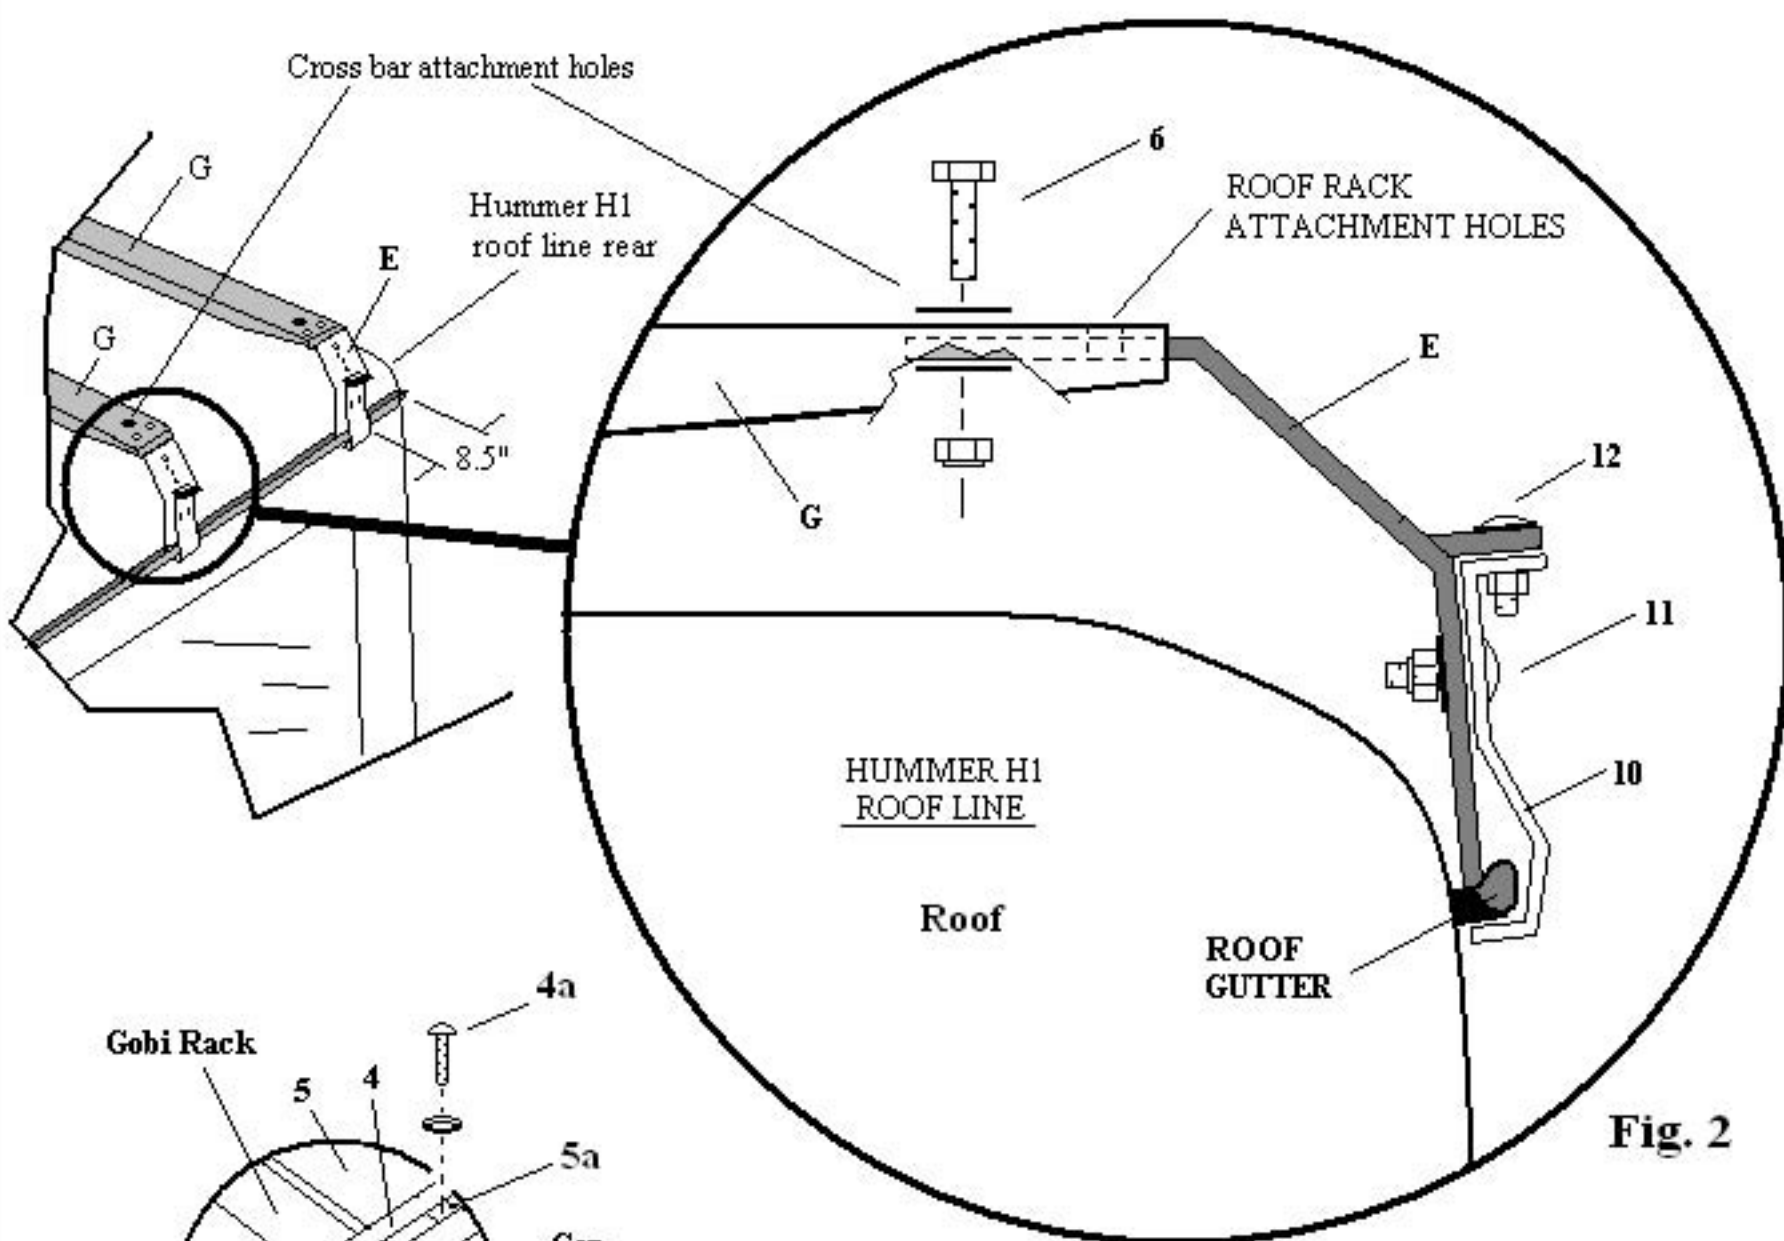

Fig. 2
- 2- Refer to page 3 remove all cross bars (G) banded to the roof rack and place on a flat surface.
- 3- Refer to page 4 and remove all support brackets (E) banded to roof rack. Slide support brackets (E) into the ends of each cross bar "G" as shown in Fig. 2. Also shown in Fig. 2 remove 6 of screws (6) 3/8-16 x 1-1/4" stainless steel hex head screw, 12- stainless steel 3/8" flat washers and 6- 3/8" yellow zinc nylock nuts from Bag #3 of your hardware kit. Use 1 screw and washer and insert through the holes at the ends of cross bar (G) labeled "cross bar attachment holes" and through support bracket (E) then secure in place with a stainless steel 3/8" flat washer and yellow zinc nylock nut as shown in Fig. 2. Screws are to remain snug only do not fully tighten at this time.
- 5- Refer to page 4 Fig. 2 after each cross bar (G) and support bracket (E) assembly has been installed onto the vehicle roof gutter and correctly placed secure cross bars to roof gutters by using the following procedure. First make certain that support bracket (E) is seated firmly in the roof gutter as shown in Fig. 2 then loosen screws (11) and (12) and place clamp (10) under gutter lip. Once Clamp (10) has been placed under the roof gutter snug down screw (11) so that clamp (10) can still move up and down but not out away from vehicle. Continue by tightening screw (12) pulling up clamp (10) tighten until clamp is firmly held in place. It is not necessary to fully tighten clamps only tighten enough to prevent support bracket (E) from lifting out of the roof gutter. Continue the same procedure to the remaining support brackets.
- 6- Refer to page 3 Fig. 1 and page 4 Fig. 2 and place the Gobi H1 roof rack (A) onto cross bars (G) and align each welded in flange (7) of roof rack to the ends of each cross bar (G) labeled "roof rack attachment holes". Place a rubber pad (8) supplied in Bag #3 between the roof rack and cross bar and use the remaining hardware (9) in Bag #3 to attach roof rack to cross bars (G) as shown on page 3 Fig. 1.
- 7- Refer to page 3 Fig. 1 after all screws, washers and nuts have been installed properly fully tighten all screws (9) securing Gobi rack (A) to cross bars (G) then fully tighten all screws (6) of the cross bars (G) shown on page 4 Fig. 2.
- 8- Refer to page 4 Fig. 2 and fully tighten all support bracket screws (11).